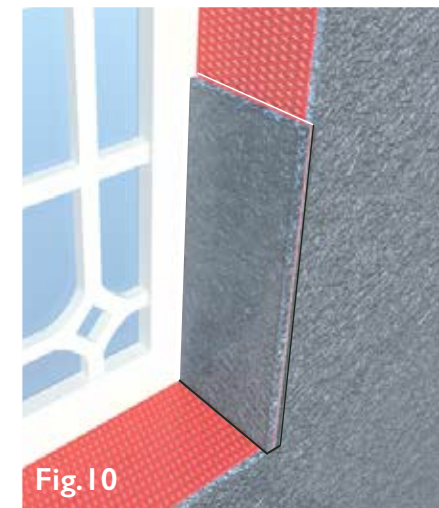

Fig.10
2. Cut strips of Wraptherm slightly wider than the depth of the window/door reveal so that the outside edge of the strip extends beyond the threshold and flush with the front of the sheet. (Fig.10)